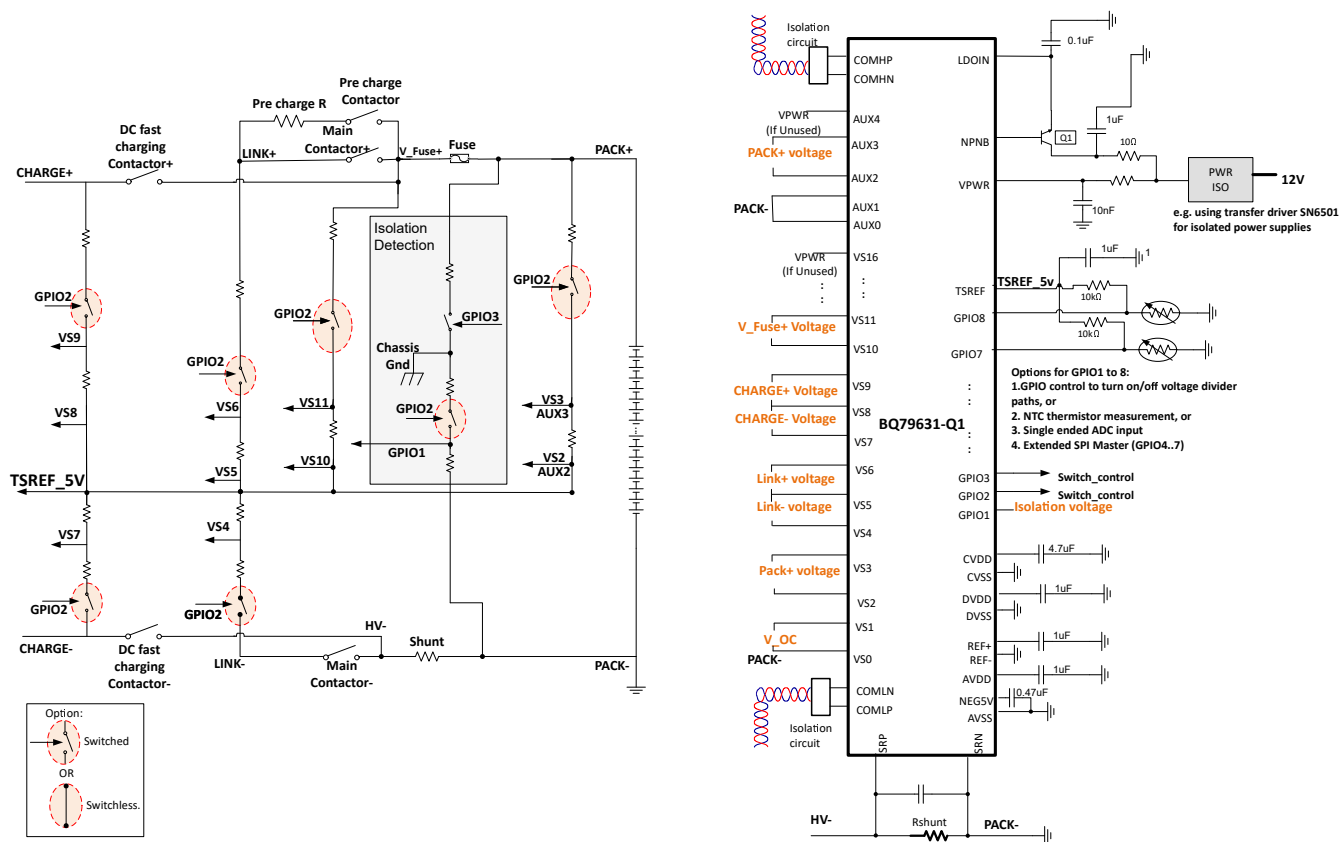

图 9-1. Typical BJB Application Circuit and Connections for Voltage (U), Current (I), and Insulation Resistance (R)
The following application circuit (see 图 9-1) is based on the BQ79631-Q1 device operating in a BJB/BDU.
A typical BJB application circuit and connections for voltage (U), current (I), and insulation resistance (R) are shown in 图 9-1